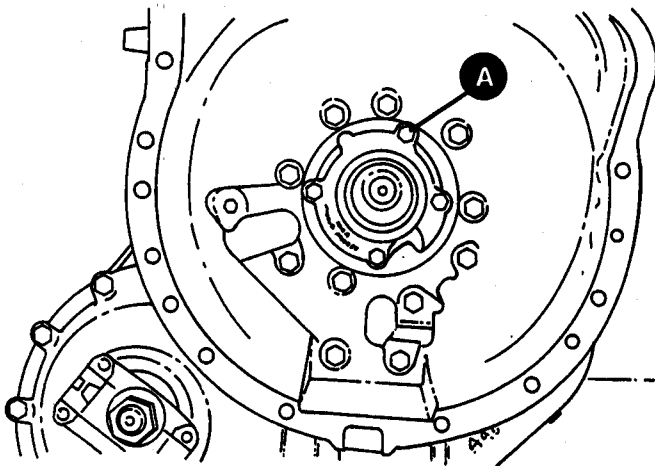

Figure 8.
2. Remove and discard oil filter (17). Remove filter adapter (16).
3. Unscrew bolts (A, Figure 8) and remove the torque converter pump assembly.